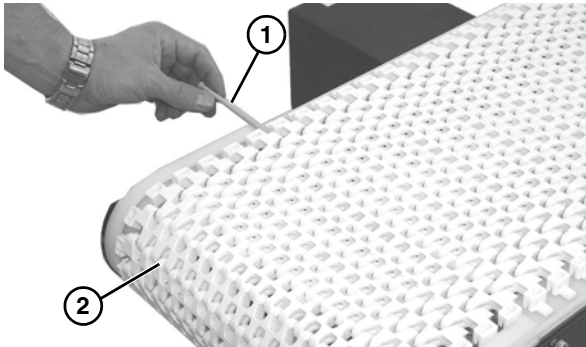

Figure 23
1. Use a punch and hammer to push the belt rod (Figure 23, item 1) out by striking the rod end opposite the retaining head.
2. Slide the old belt (Figure 23, item 2) off the conveyor frame.